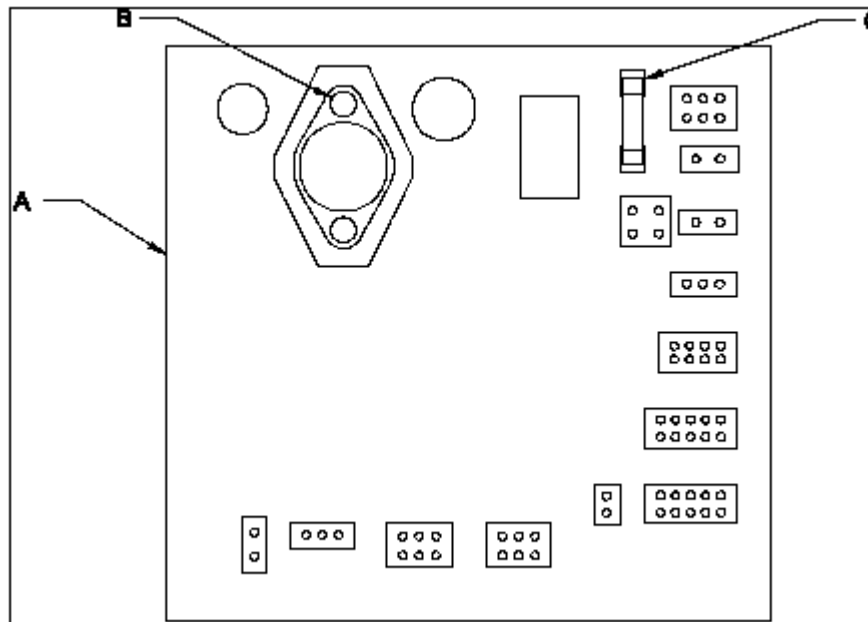

Figure 3-9: Control Voltage Check—Voltmeter Connections
4. Connect the voltmeter. (See Figure 3-9.)